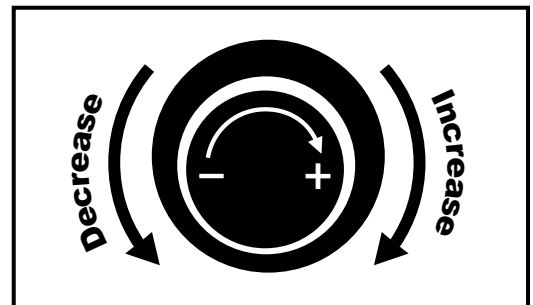

Figure 10
- Turn the Vacuum Control Valve clockwise to increase the vacuum or counter-clockwise to decrease vacuum (fig. 10).